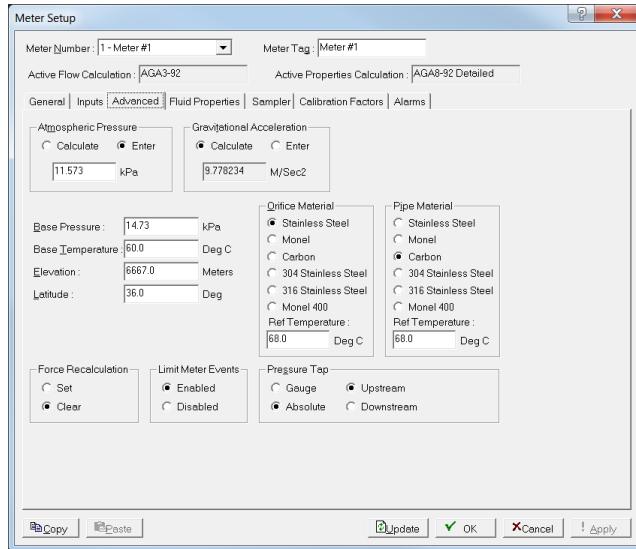
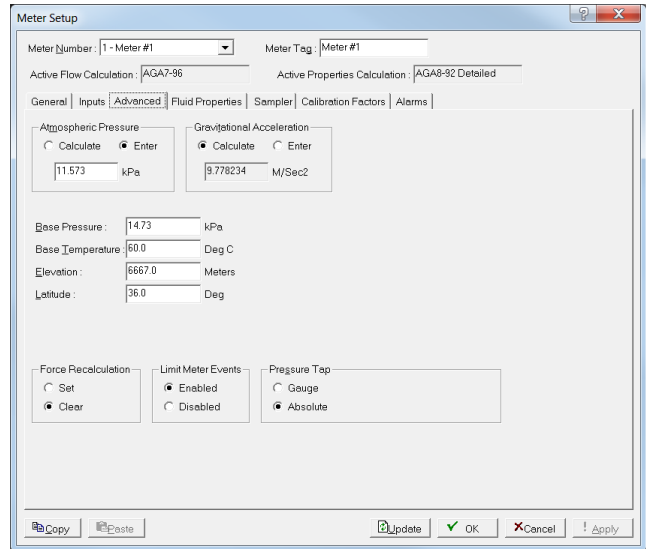
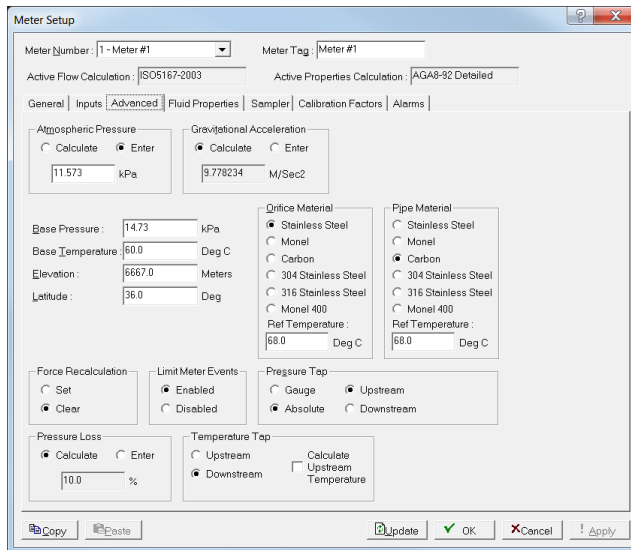

Figure 8-7. Meter Setup, Advanced tab (Orifice Meter)
Figure 8-8. Meter Setup, Advanced tab (Turbine Meter)
Figure 8-9. Meter Setup, Advance tab (Orifice and Venturi Meter)
**Note:** Which screen displays depends on the calculation standard you selected on the General tab. Select **AGA3-1992** or **AGA3-2013** (orifice calculations) to display *Figure 8-7*. Select **AGA7-2006** (linear calculations) to display *Figure 8-8*. Select **ISO167-2003** (orifice and Venturi calculations) to display *Figure 8-9*